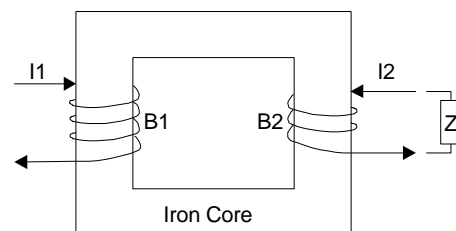

Figure 1
An AC clamp-on current probe (CT) is a type of current transformer. A transformer is formed essentially from two coils wound on a common iron core (Figure 1). A current I_1 applied through the coil B1 induces through the common core a current I_2 in coil B2. The current I_2 in B2 is determined by the ratio $N_1 \times I_1 = N_2 \times I_2$, where N_1 and N_2 are the number of turns in each coil.